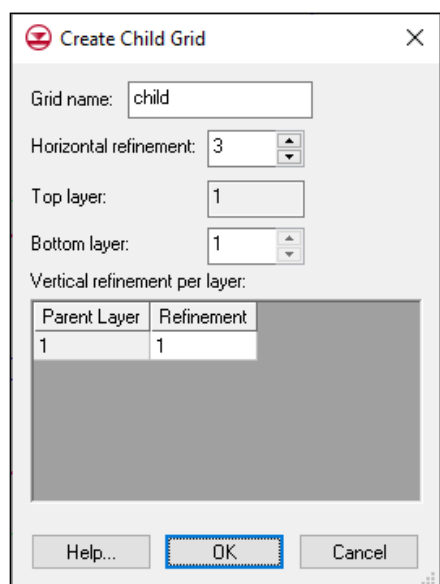

Figure 3 Create Child Grid dialog
3. Right-click in the selected area and select **Create Child Grid...** to bring up the **Create Child Grid** dialog (Figure 3).